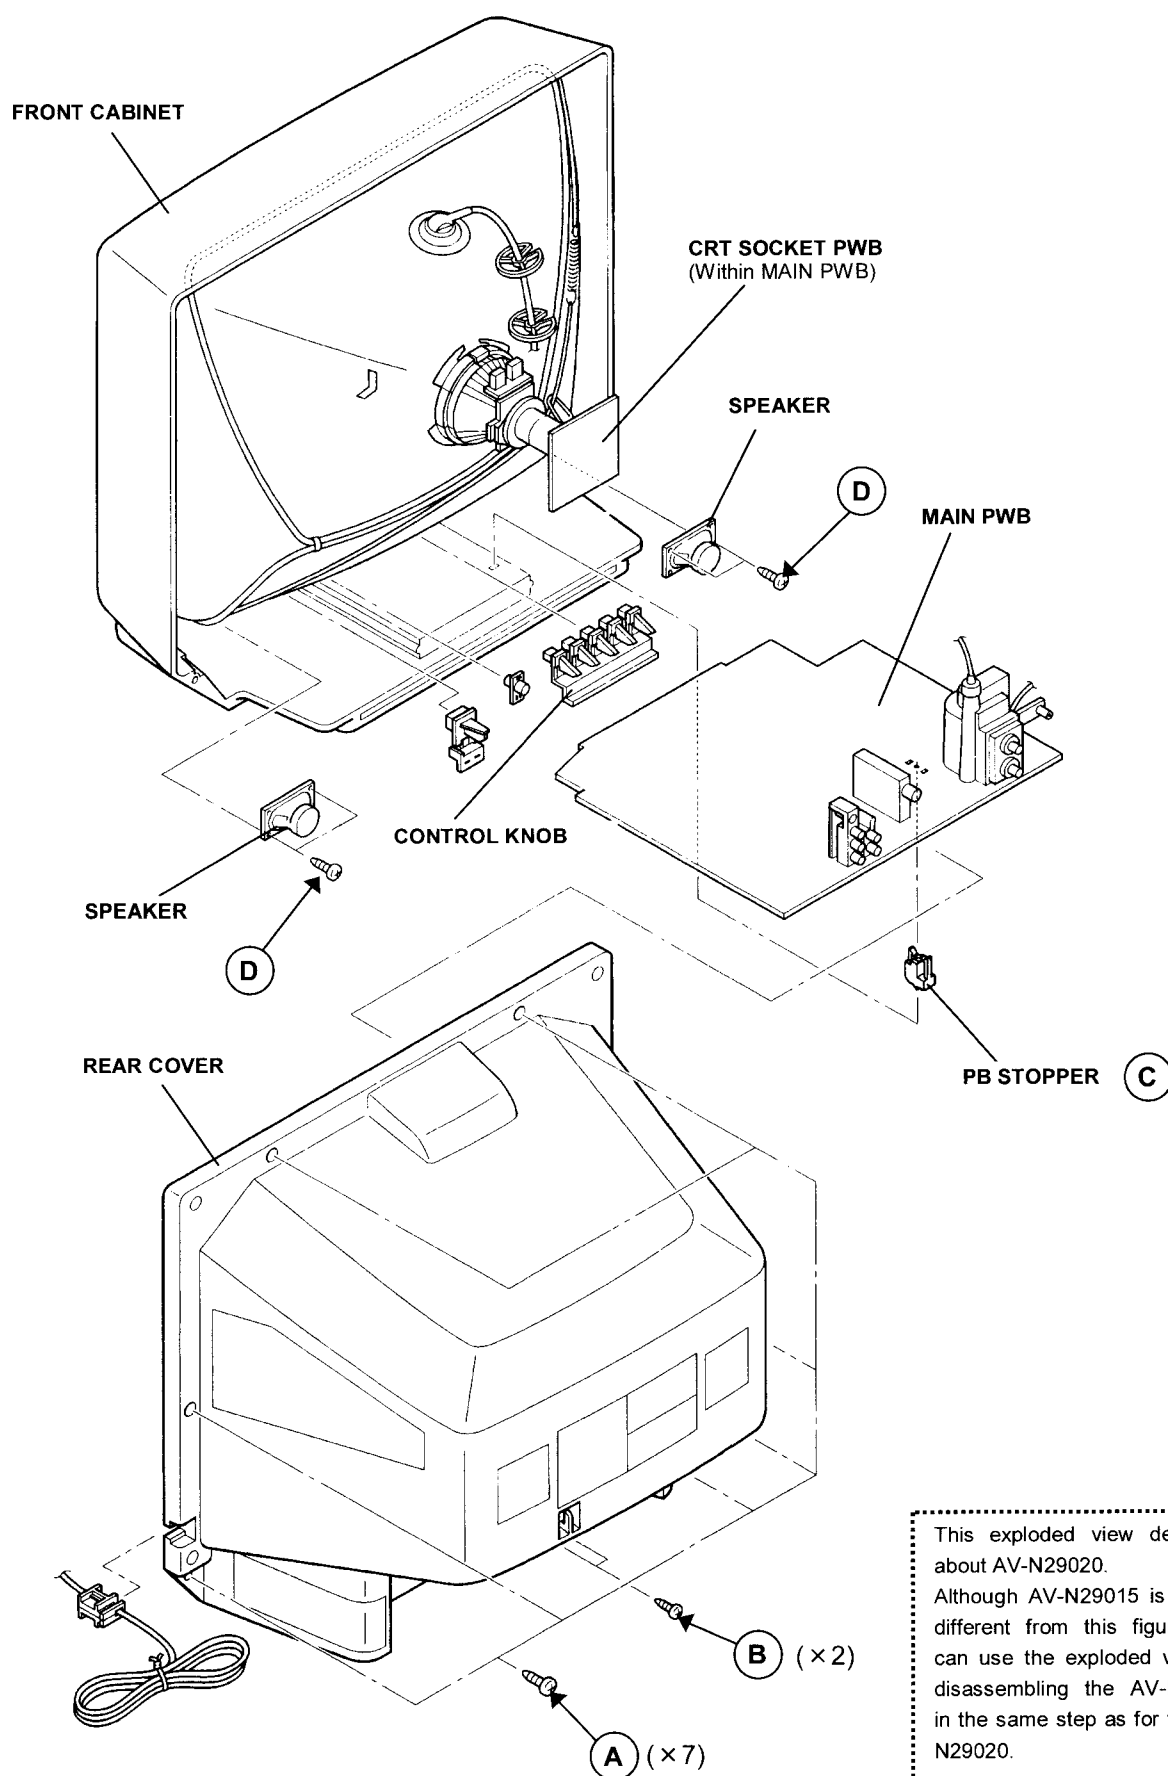

Fig.1
2. Remove the 7 screws marked (A) and 2 screws marked (B) as shown in Fig.1.
2. Remove the 7 screws marked (A) and a screw marked (B) as shown in Fig.1.
1. Remove the 2 screws marked (D) as shown in Fig.1.
(5) Receive channel setting Refer to the OPERATING INSTRUCTIONS(USER'S GUIDE) and set the receive channels (Channels Preset) as described.
(6) User settings Check the user setting items according to Table 2. Where these do not agree, refer to the OPERATING INSTRUCTIONS (USER'S GUIDE) and set the items as described.
(7) SERVICE MENU setting Verify what to set in the SERVICE MENU, and set whatever is necessary.(Fig.1) Refer to the SERVICE ADJUSTMENT for setting.